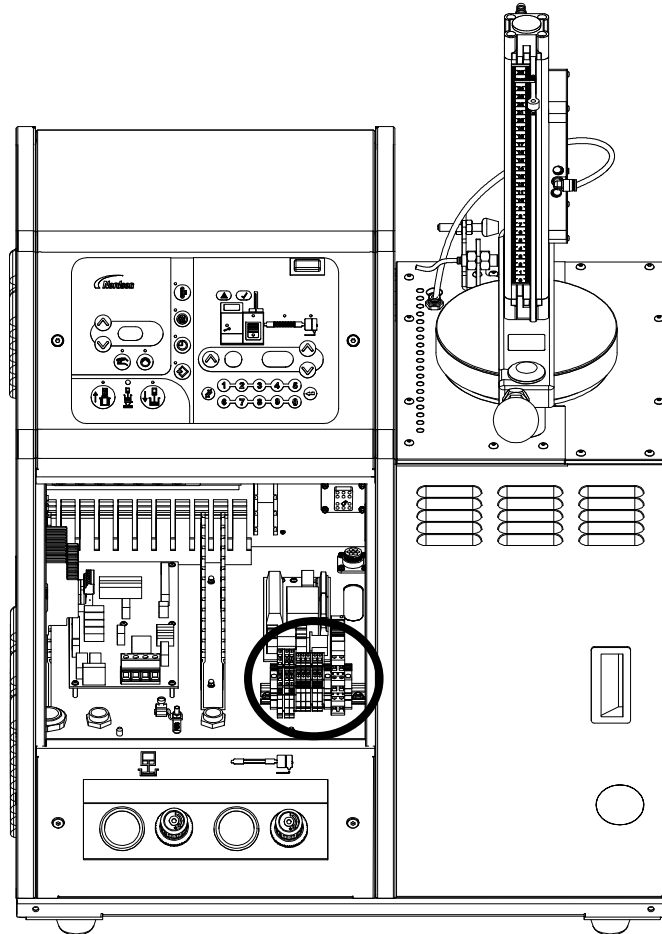

Figure 3-9 Connecting a signal to the pressure control terminal block for the pressure control option
See Figure 3-9. Connect a customer-supplied 24V control signal to the pressure control terminal block (1) located inside the electrical enclosure XT1-3:24VDC+; XT1-4:24DC-.